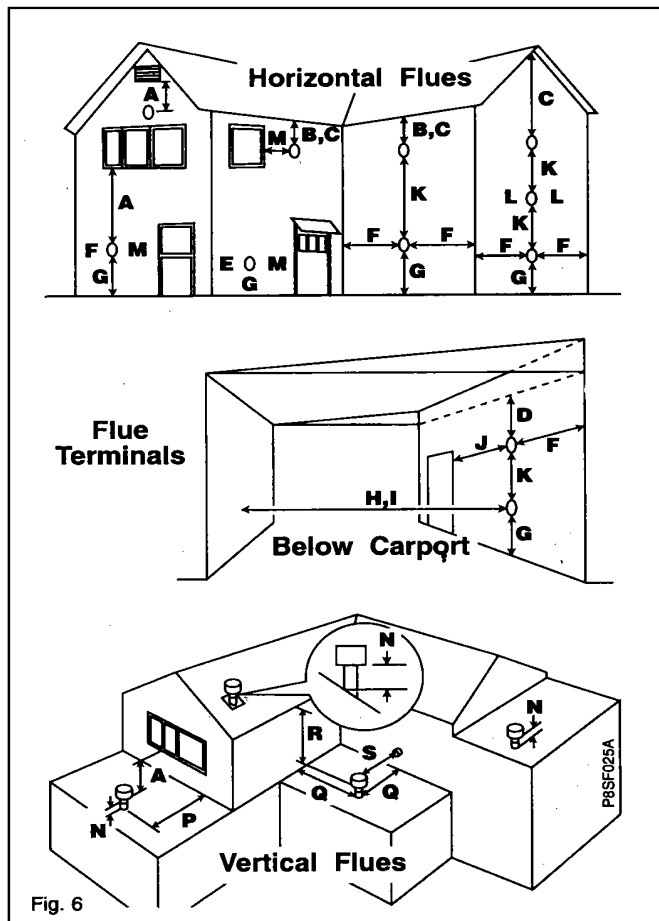

Fig. 6
1.3 Flue Terminal and Ducting (Fig: 6 - a, b & c)
90° In-line elbow kits and **135° In-line Bend** kits are also available for more flexible siting. Horizontal flues can be set at 45° angles to the combination boiler, through 360°, to the miniature terminal on the outside of the building. The siting positions for horizontal flue terminals are shown in Figs. 6 - a) & b).
135° Off-set kits are available for both concentric and twin tube. The siting of the flue terminal through a roof is shown in Fig 6 - c).